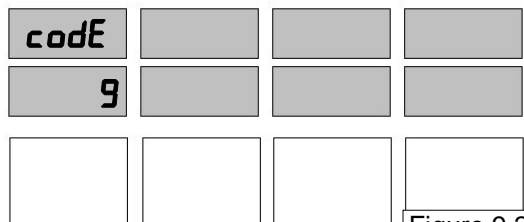

Figure 9.2
2. Use the 0 through 9 buttons on the keypad to enter a Flow Time Out value in seconds. For example, if a 20 second delay is entered, the volume display window looks like Figure 9.2.